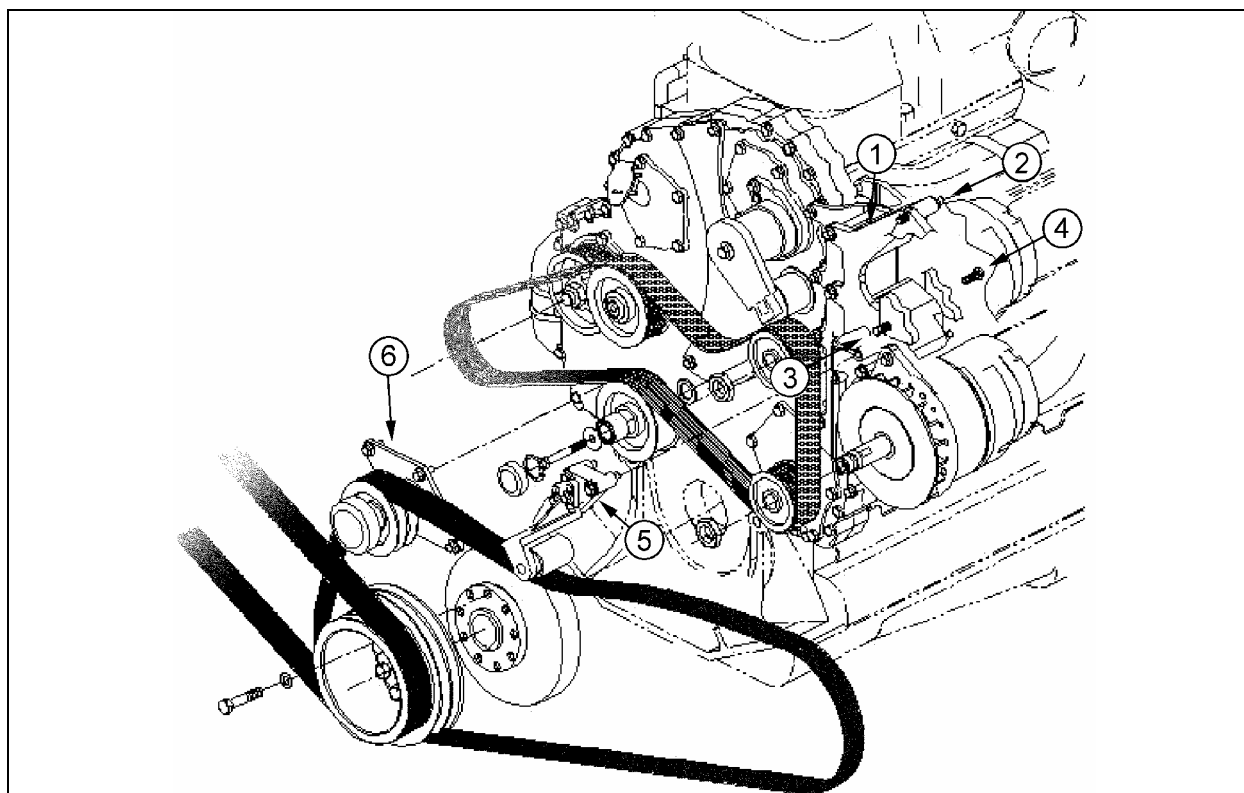
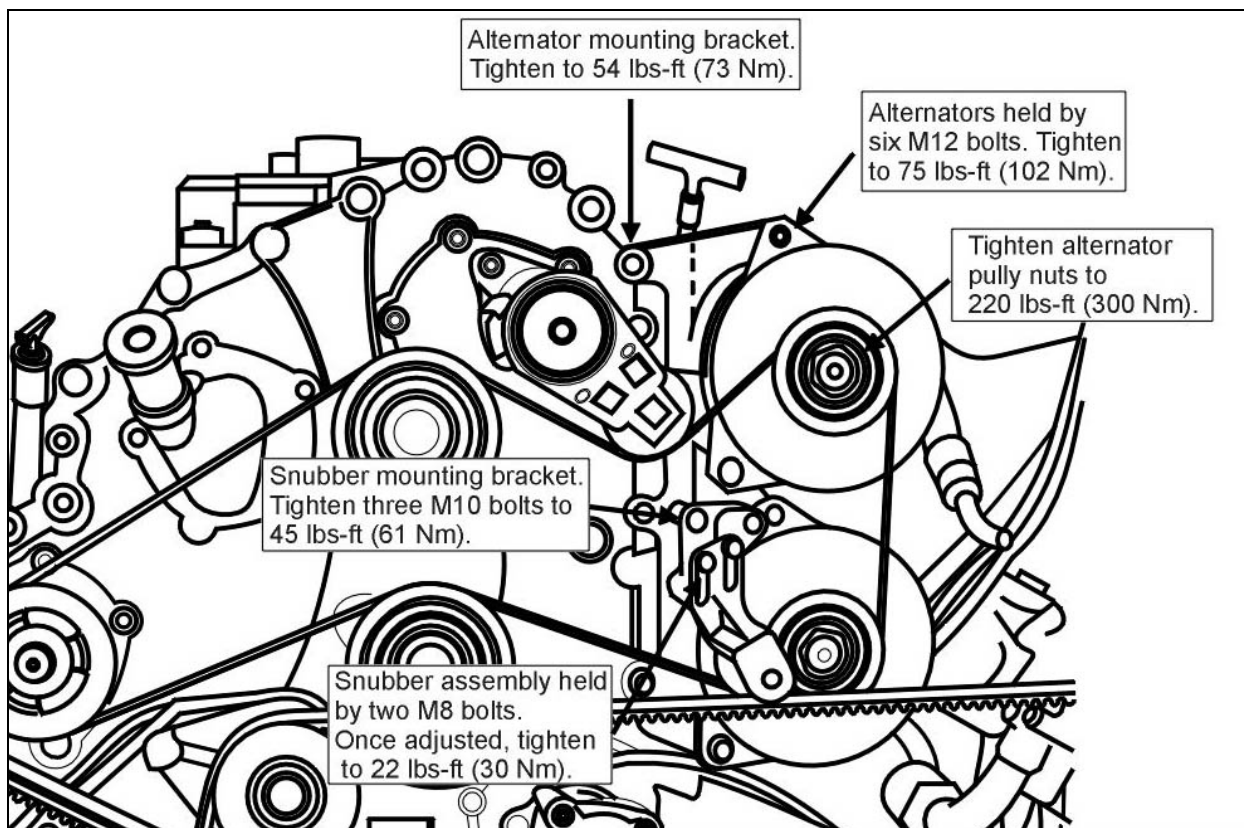

FIGURE 13: TWIN BOSCH ALTERNATORS INSTALLATION
FIGURE 14: ALTERNATORS AND ACCESSORIES MOUNTING TORQUES
If the alternators needed to be removed, reinstall as follows. Refer to figure 13 for installation and to figure 14 for tightening specifications:
1. Install alternator mounting bracket (1, figure 13) to the gear case. Use the four flanged phosphor alloy bolts on the pulley end of the bracket and the flanged nuts at the transmission end of the bracket;
2. Bolt the alternators to the bracket using the three inch bolt at the top of the upper alternator (2, fig 13) and flanged bolts at the other mounting bosses (3 and 4, figure 13). Tighten the bolts in the sliding sleeves (4, figure 13) last as they will adjust to prevent breaking the alternator mounting bosses upon final tightening. Repeat for the second alternator;
4. Install the snubber bracket (5, fig. 13) using three flanged bolts. Do not tighten the adjustment bolts on the snubber until after final tightening;
5. Install the compressor belt idler pulley (6, fig. 13) as shown. A stud inserts into one of the mounting holes of the pulley assembly. Fasten this one using a nut and bolts for the other two.